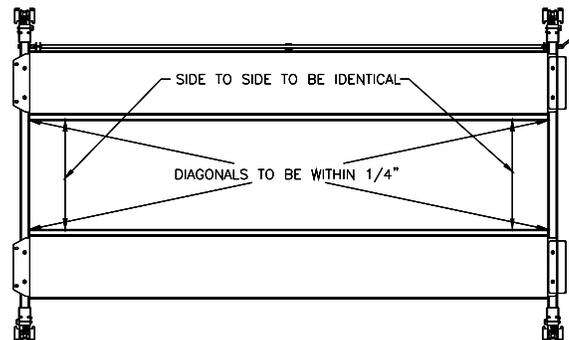

Fig 12 – Final Runway Positioning
- 19) Check the layout of the lift in the bay. If anchoring the lift, this is the last chance to make adjustments. Adjust the position of the runways so the distance from power side jack rail to idler side jack rail is the same at the front and the rear and the diagonal measurements from the front tip of one rail to rear tip of the opposite rail are within 1/4", **Fig 12**.